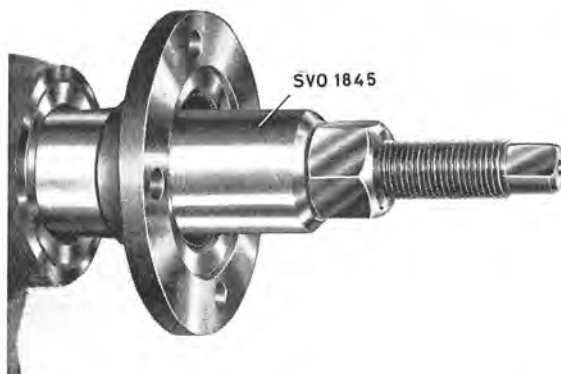

Fig. 4-15. Fitting flange
4. Press on the flange with tool 1845, see Fig. 4-15.